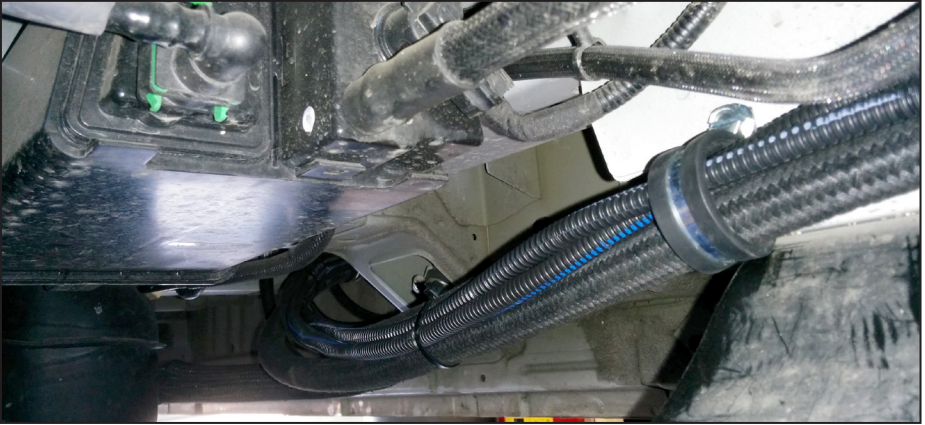
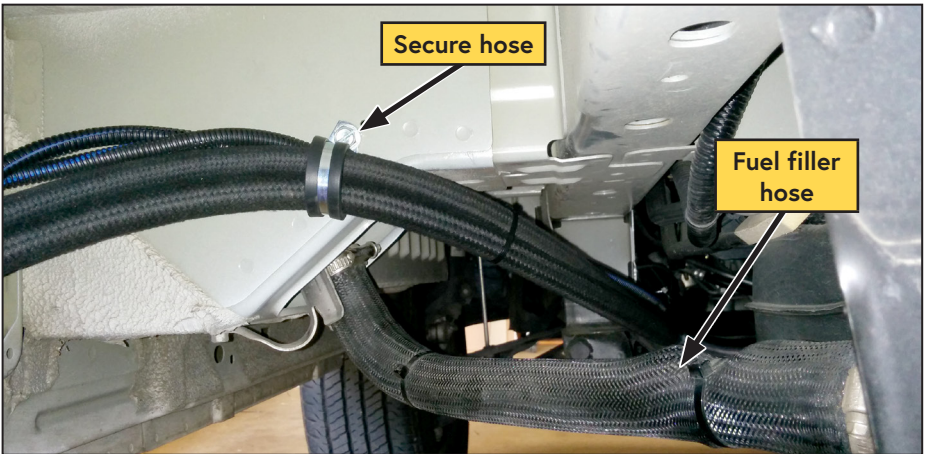

Figure 48 — Hose routing continued
Figure 49 — Hose routing above fuel filler hose
- Route the hoses above the fuel filler hose and toward the rear of the fuel filler housing (Figure 48, Figure 49).
- Secure the hose using the supplied P-clip and 5/16 in x 3/4 in sheet metal screw, in the location shown (Figure 49).